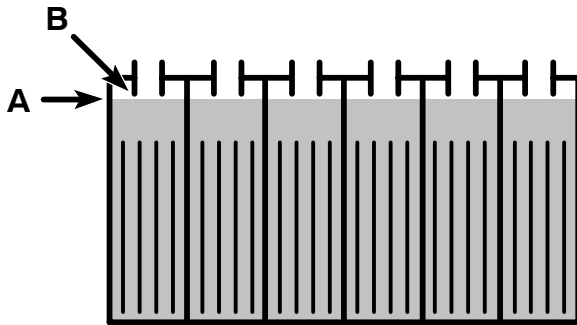

FIG. 45
3. Check the electrolyte level (A) in each battery cell **after charging batteries**. The level should be approximately 1 cm from the bottom of the fill-port (B). Add distilled water if needed (Figure 45). **DO NOT OVERFILL.**